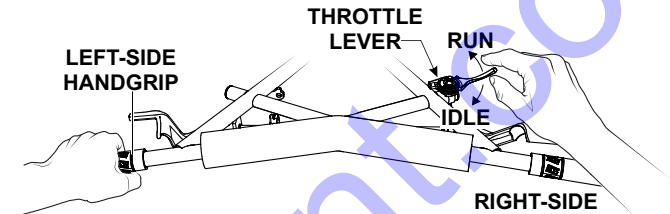

Figure 2. Throttle Lever (Run/Idle)
5. With one hand on the **left-side** handgrip, move the throttle lever (Figure 2) from **IDLE** to the **RUN** position.
2. Return the throttle lever (Figure 2) to the **IDLE** position.